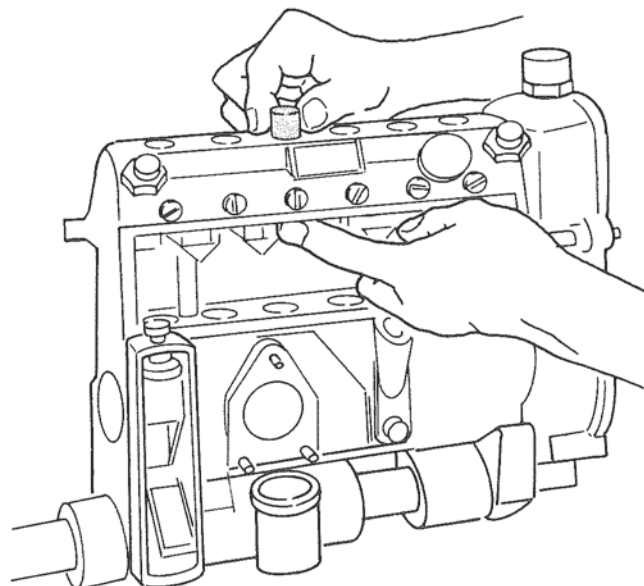

Figure 33. Removing Plunger Barrel.
- G. Remove plunger barrel. Figure 33.